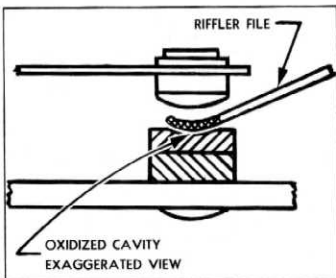

Fig. 25—Use of Riffler File
3. If a cavity is found in the flat point, clean it out with a spoon or riffler file (fig. 25).